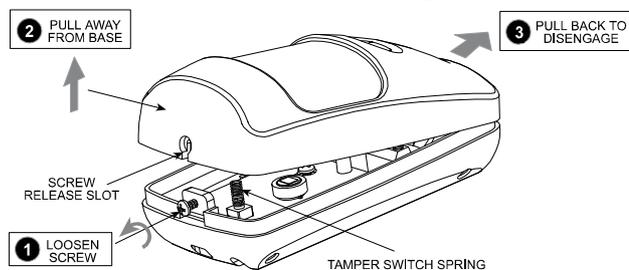

Figure 3. Cover Removal
1. Remove the front cover as shown in Figure 3.